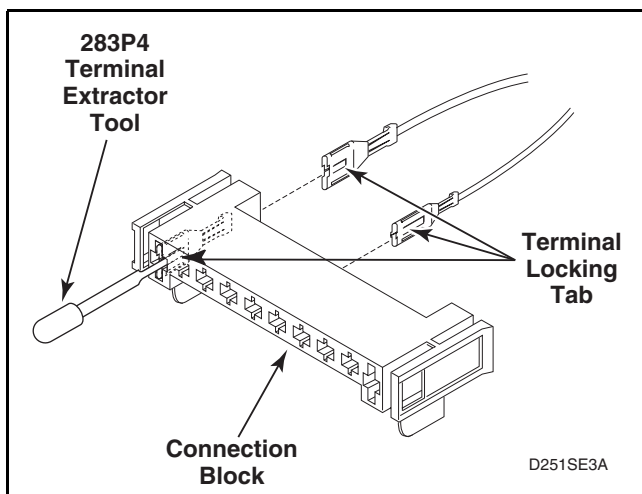

Figure 47
- (1) Insert the tool into the block on the back of the terminal being removed. Refer to *Figure 47*.
- (2) Apply tool pressure to compress the terminal locking tab on terminal and force the terminal and wire out back side of connection block. Refer to *Figure 47*.